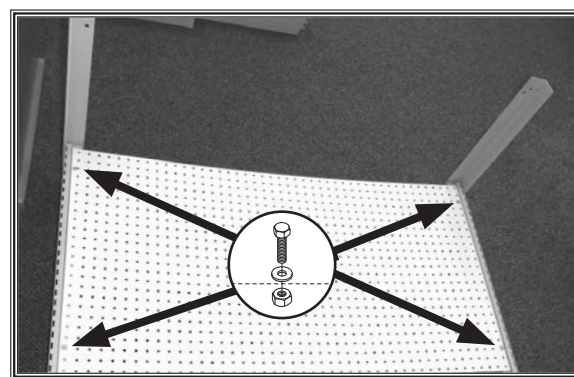

Figure 18. Bottom pegboard sheet attached to frame.
11. Use four M6-1 X 12 hex bolts, 6mm flat washers, and M6-1 hex nuts to secure the pegboard into place (see **Figure 18**). Adjust the legs as needed to align the bolt holes in the pegboard with those in the legs.